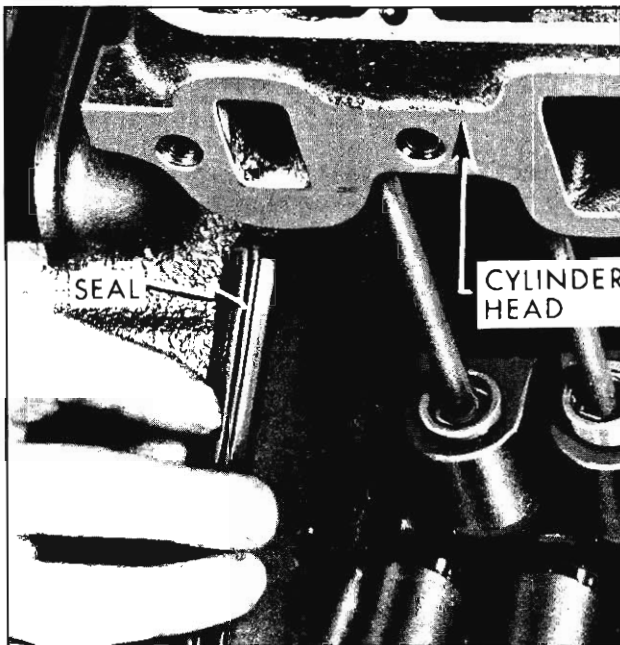

Fig. 3-113 Intake Manifold Seals
1. Place new rubber manifold seal in position at front and rear rails of cylinder block. Be sure pointed ends of seal fit snugly against block and head. (Fig. 3-113)